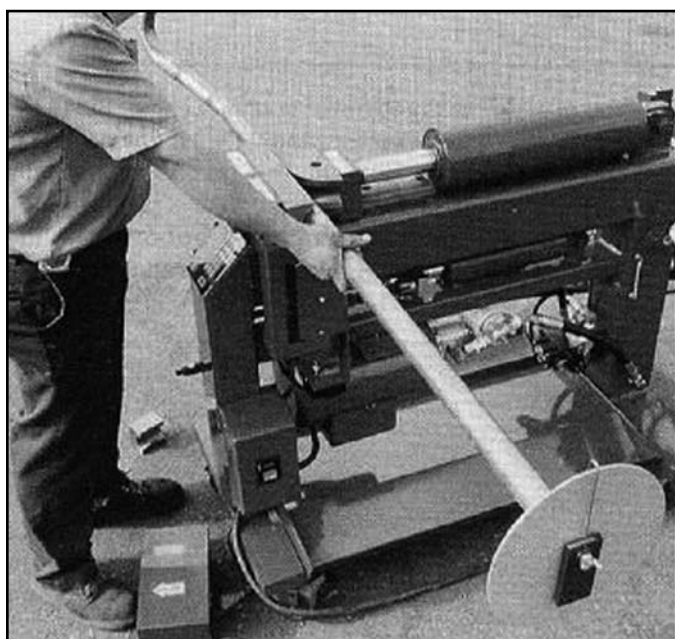

Figure 3-B
28. On bend number five no special instructions are shown. In this case, return the ROTATION DIAL to the right side and install the full BACK SHOE. A HALF SHOE is not required for this bend.(See figure 3-B.)